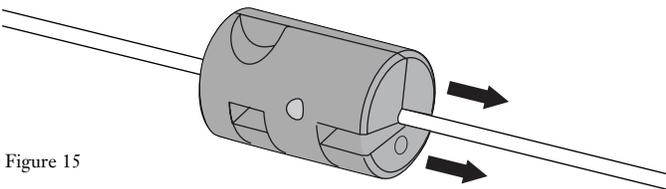

Figure 15
6.7 Carefully slit the buffer tube with the blue tube splitter (Figure 15).